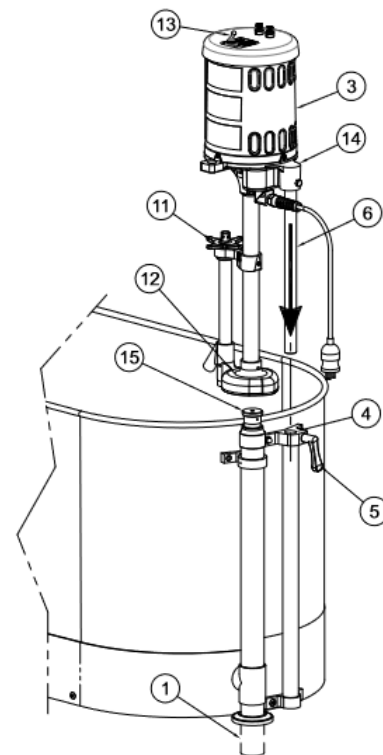

Figure 3: Installing the turbine on the tub. –S model with standard drain and overflow shown.
1. (Figure 3) Loosen handle (5) then lower turbine support rod (6) into turbine support tube. Tighten handle (5) when turbine is at desired height.